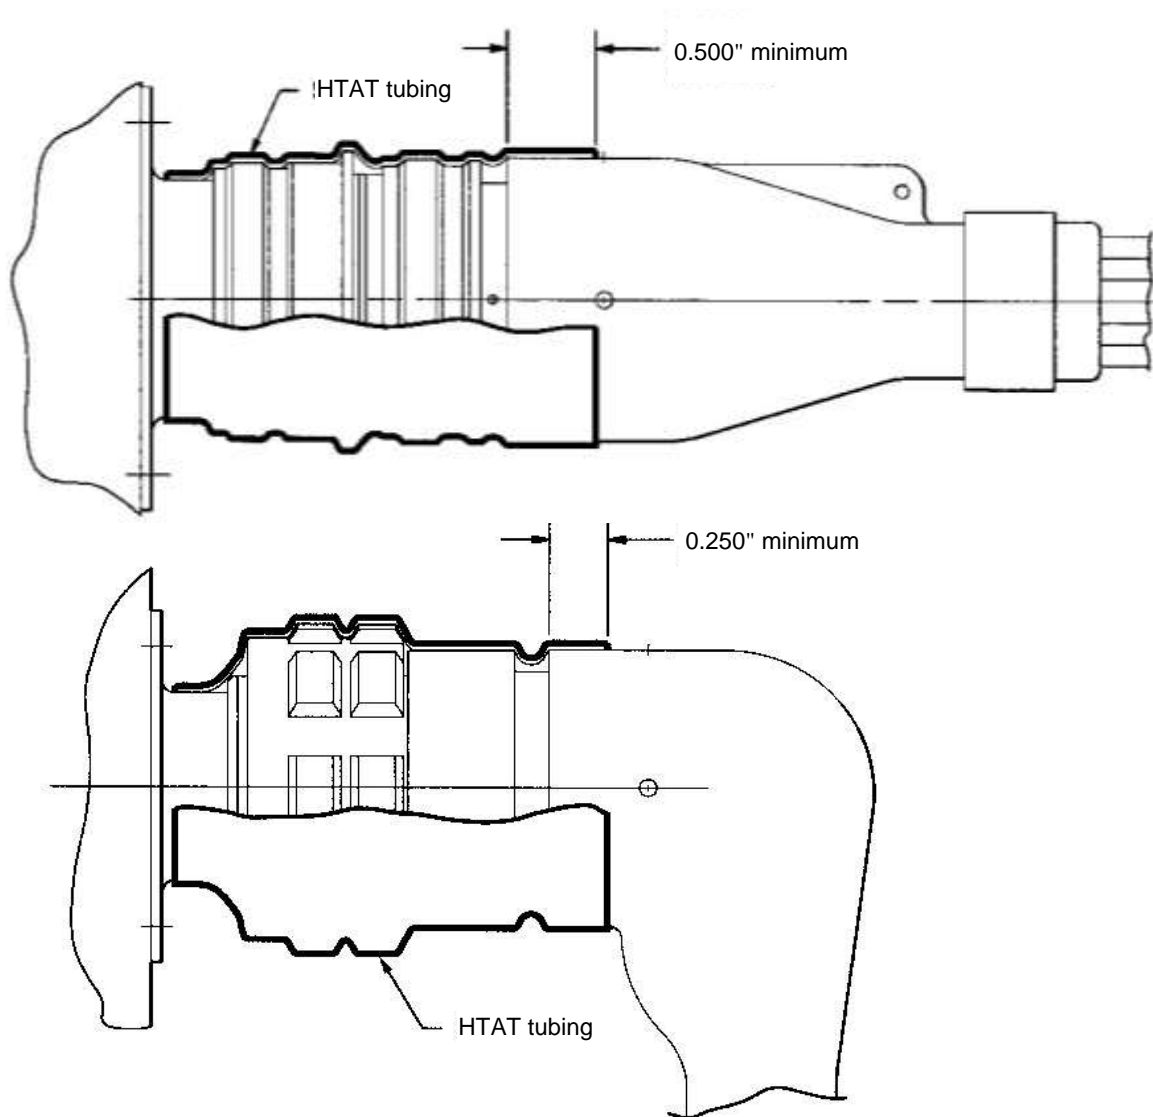

Figure 1. Installation of HTAT Heat Shrinkable Tubing
| Figure 1. Installation of HTAT Heat Shrinkable Tubing..... | 6 |
Step 1. If the unshrunk HTAT tubing is not already on the harness at the rear of the connector (i.e., ready for installation), disconnect the connector and slide a suitable length (see Figure 1) of HTAT heat shrinkable tubing over the connector onto the harness. To avoid splitting of the HTAT tubing during shrinking, cut the sleeve to the required length in one cut with a sharp pair of scissors. After slipping the HTAT tubing onto the harness, re-connect the connector according to PPS 9.22.
Step 2. **Lightly** scuff the area of encapsulation boots to be covered with HTAT tubing (see Figure 1) using very fine abrasive paper (ref. para. 4.1.3).
- Step 4. Pull the HTAT tubing up over the connector into the installation position as shown in Figure 1.